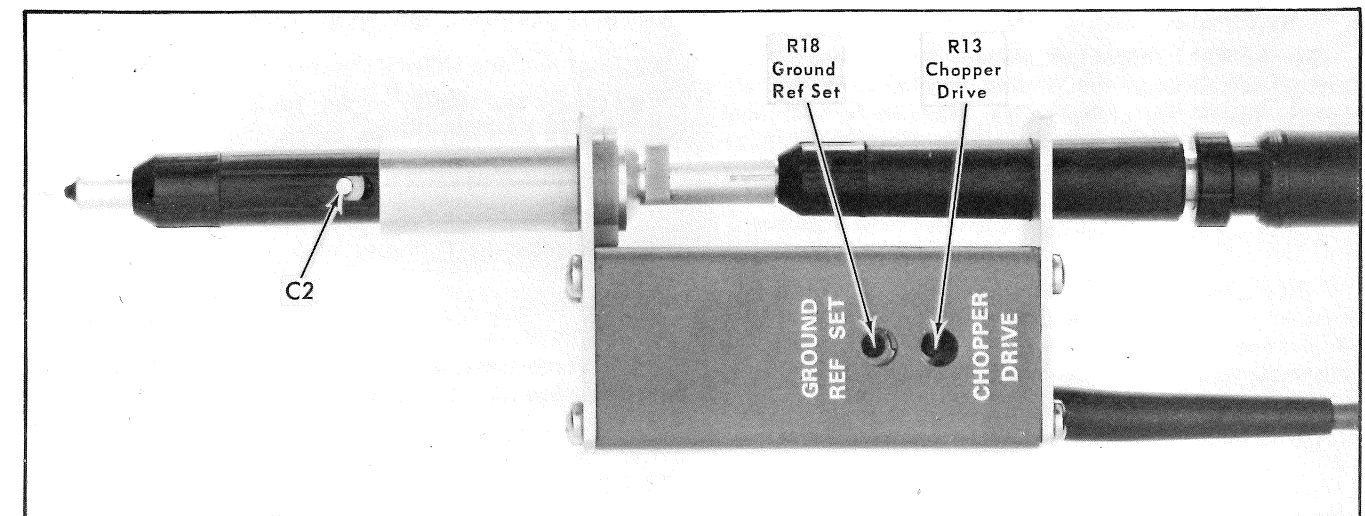

Fig. 6-6. Location of signal chopper adjustments.
k. ADJUST—C2 on the 10X attenuator (see Fig. 6-6) for a 100 mV pulse amplitude.
n. Turn the signal chopper Chopper Drive adjustment, R13, (see Fig. 6-6) fully counterclockwise, then turn it slowly clockwise.
q. Turn the signal chopper Ground Ref adjustment, R18, (see Fig. 6-6) throughout its range. Note the movement of the trace to the right of the reference zones.